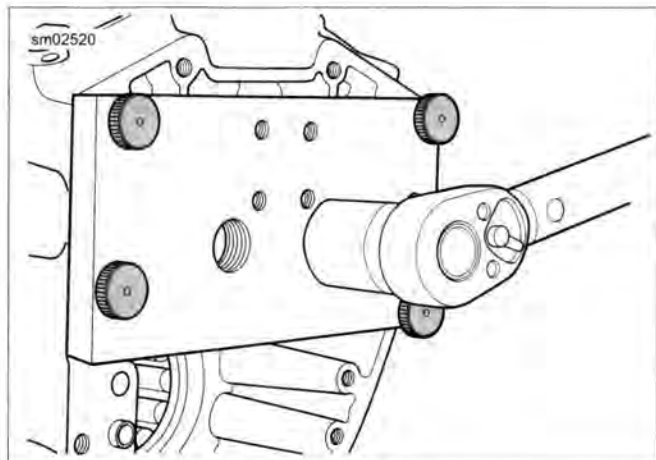

Figure 3-96. Bearing Installation
- a. See Figure 3-96. Turn forcing screw clockwise to press needle bearing into bore.